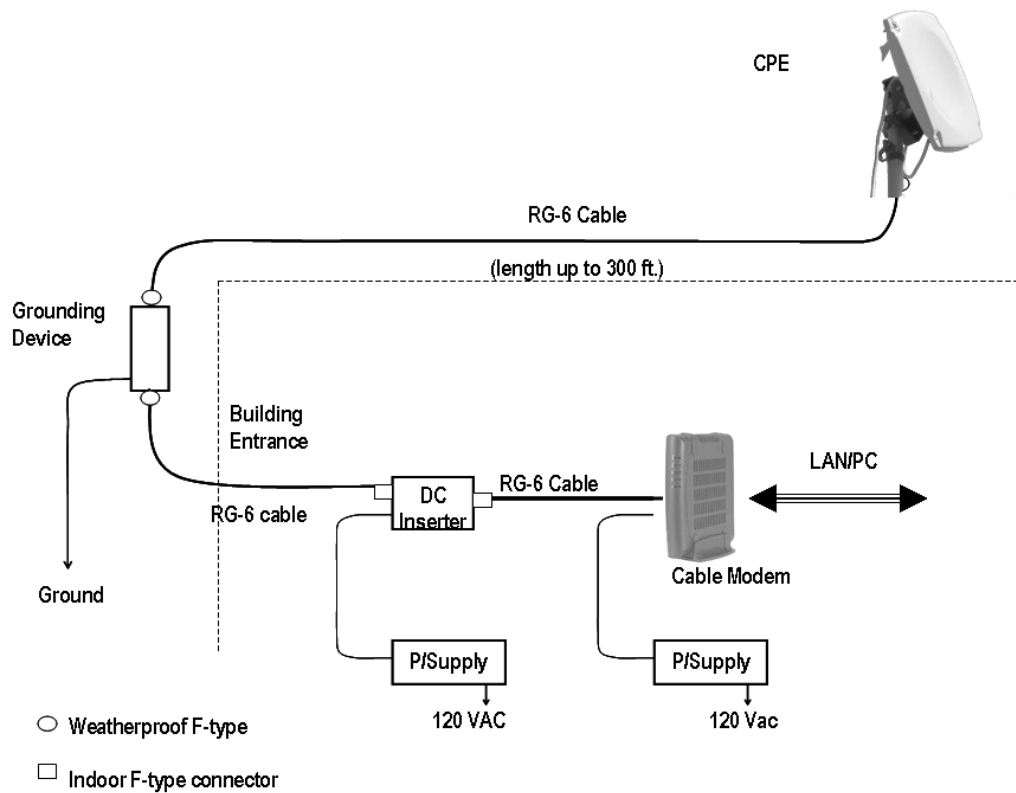
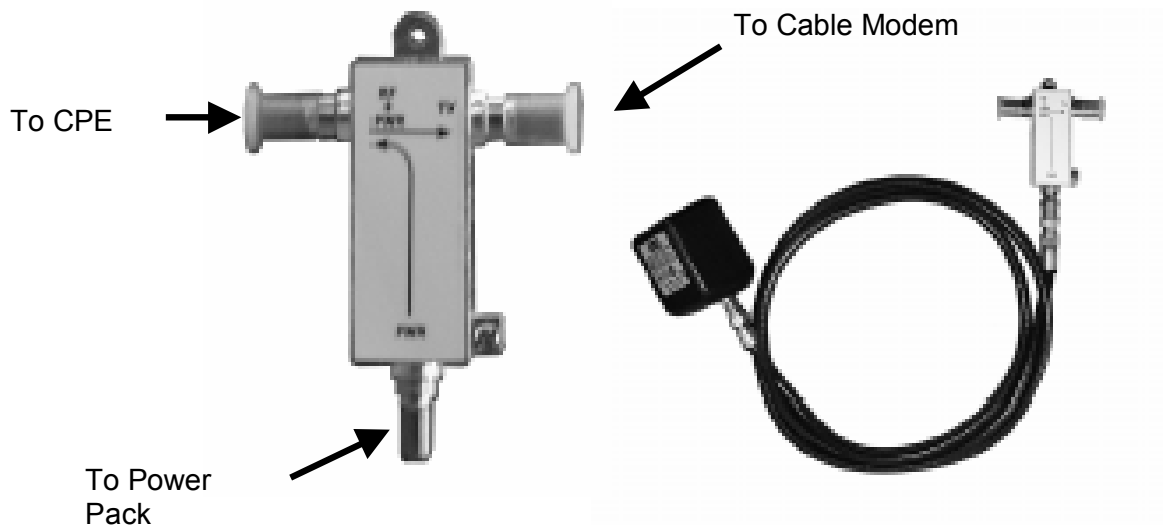

Figure 4-3: CPE Wiring Diagram
Figure 4-5: Power Inserter and AC/DC adaptor
☞ Install the coaxial cable and ground connection as shown in Figure 4-3:
- ☞ Install the DC inserter as show in Figure 4-5. Connect the power adaptor to the DC inserter as show in Figure 4-3 and figure 4-5. Plug the power adaptor into a surge protected AC power receptacle. Note the AC Power Pack must be within 300 feet of the CPE.